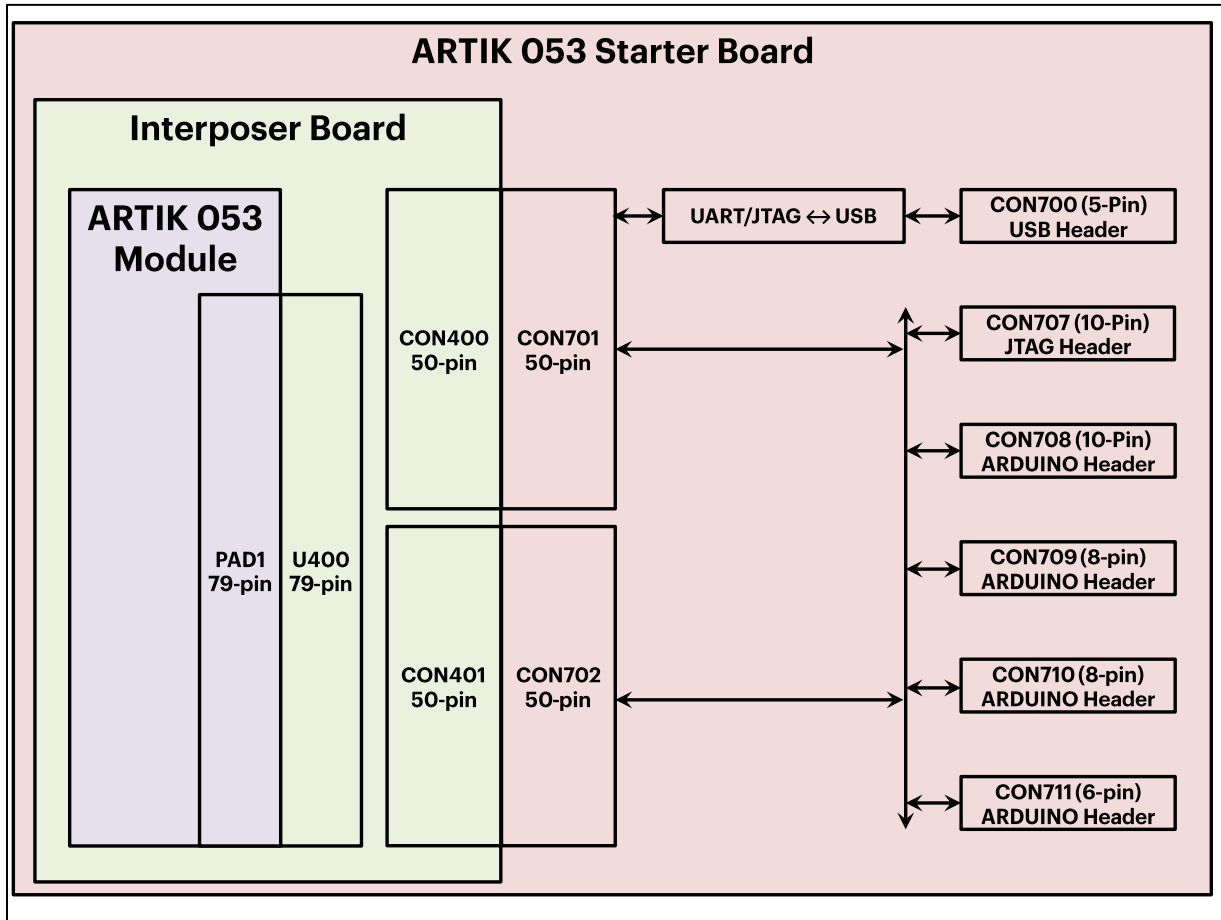

Figure 2. ARTIK 053 Starter Kit block diagram
- Figure 2. ARTIK 053 Starter Kit block diagram 7
Figure 2 shows the block diagram of the ARTIK 053 Starter Kit. For more information on the ARTIK 053 Module please consult the ARTIK 053 Module Datasheet.